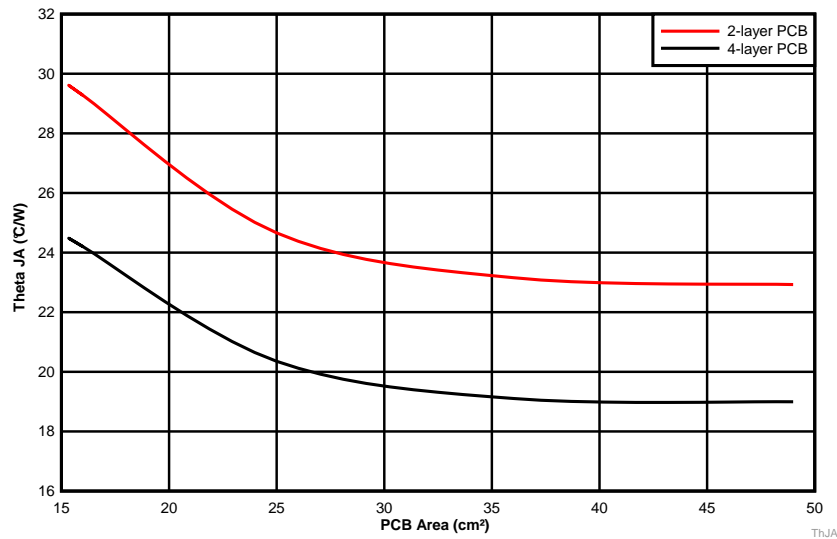

图 42. θ_{JA} vs PCB Area
The amount of PCB copper effects the thermal performance of the device. 图 42 shows the effects of copper area on the junction-to-ambient thermal resistance ($R_{\theta JA}$) of the LMZM33603. The junction-to-ambient thermal resistance is plotted for a 2-layer PCB and a 4-layer PCB with PCB area from 16 cm² to 49 cm².
3. Reference 图 42 to determine the minimum required PCB area for the application conditions.